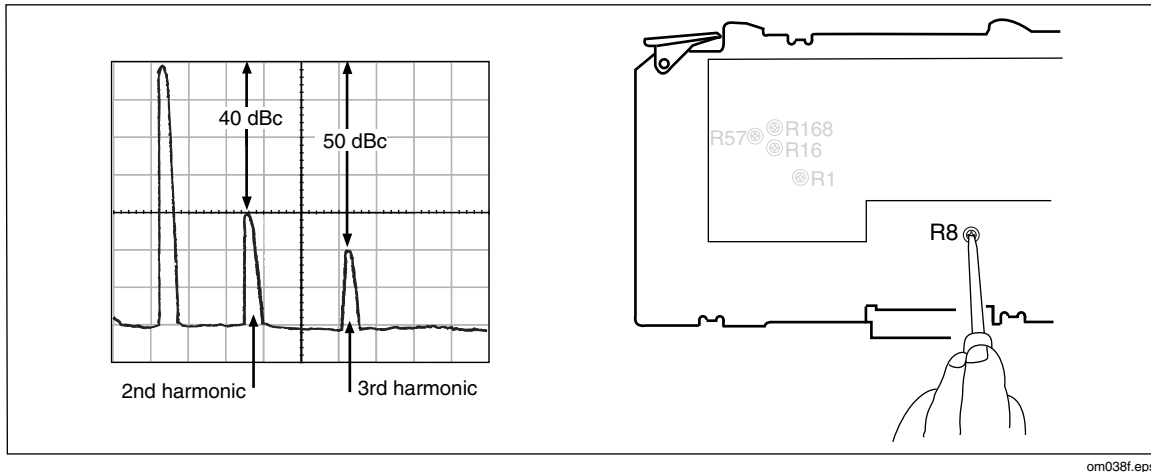

Figure 6-15. Adjusting the Leveled Sine Wave Harmonics
2. Use your Spectrum Analyzer's Peak Search function to find the desired reference signal. The Analyzer should show the fundamental, and second and third harmonics. The harmonics need to be adjusted so that the second harmonic is at 40 dBc and third harmonic should typically be at 50 dBc as shown in Figure 6-15.
3. To adjust the harmonics, adjust R8, as shown in Figure 6-15 until the peaks of the second and third harmonic are at the correct dB level. You may find that you can place the second harmonic at 40 dBc but the third harmonic is not at 50 dBc. If this is the case, continue adjusting R8. The second harmonic will fluctuate, but there is a point at which both harmonics will be at the correct decibel level.